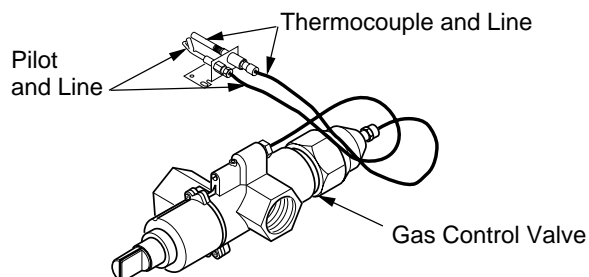

Figure 10 - Gas Control Valve with Thermocouple and Pilot
2. Attach the pilot gas line to the pilot outlet of the gas control valve and tighten. Connect the thermocouple to the rear of the gas control valve. See Figure 10. Do not overtighten. If using propane/LP gas, see *Changing Pilot Orifice*, page 8.